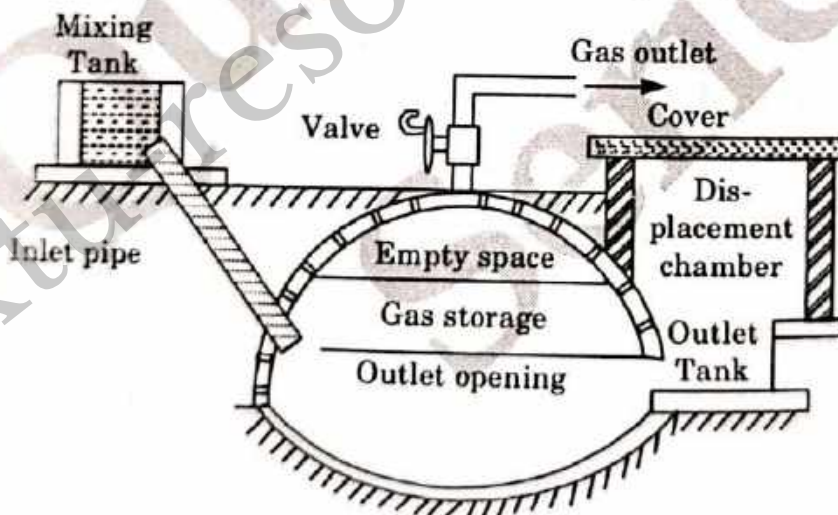

Fig. 3.
1. Deenbandhu plants are made entirely of brick masonry work with a spherical shaped gas holder at the top and a concave bottom as shown in Fig. 3.